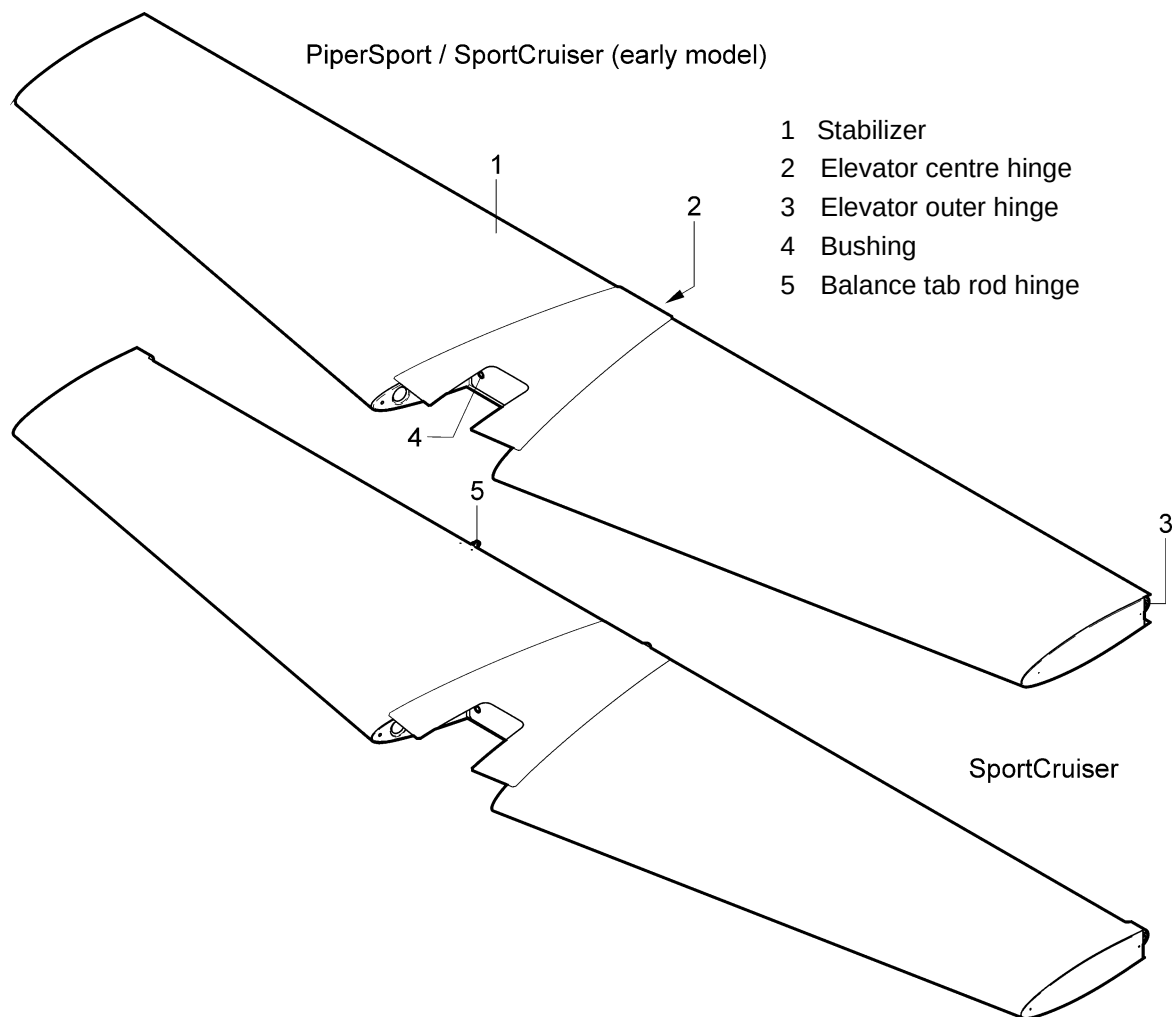
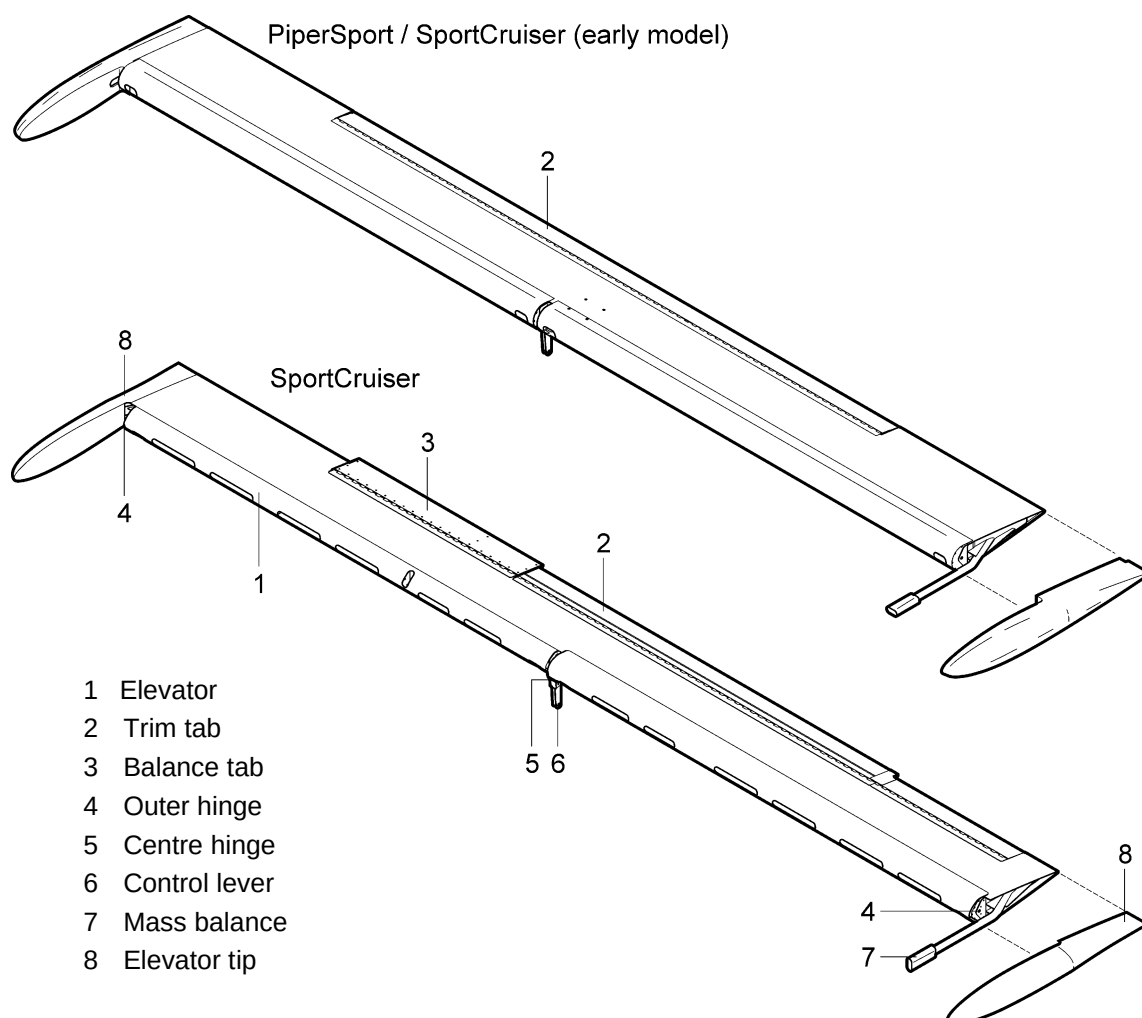
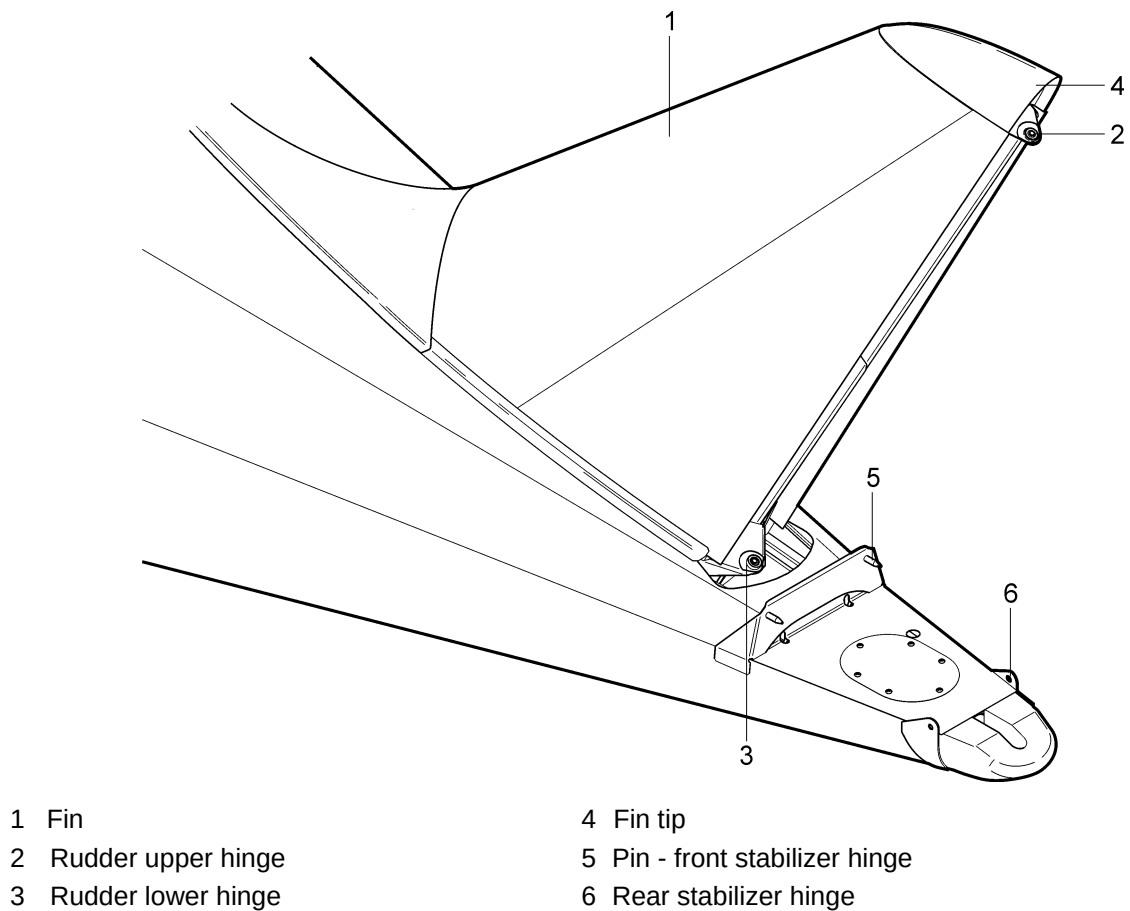

Fig. 5-1: Stabilizer
Fig. 5-2: Elevator
Fig. 5-3: Fin
Stabilizer (1, Fig. 5-1) is of the all-metal structure consisting of the two spars, ribs and aluminum skin. Individual parts are assembled by riveting. The elevator is attached to the rear spar by means of three hinges (2; 3). The horizontal stabilizer is mounted on the fuselage by means of front and rear attachments. The front attachments consist of two pins (5, Fig. 5-3), which are riveted on bulkhead No. 12 and bushings (4, Fig. 5-1) riveted on front stabilizer spar. The rear attachments consist of two hinges (6, Fig. 5-3) riveted on sides of bulkhead No. 13.
Elevator (1, Fig.5-2) is of all-metal structure and consists of aluminum skin, spar and ribs. Individual parts are assembled by riveting. Control lever (5) is riveted on middle elevator rib. Mass balances (6) are riveted at the both elevator ends and covered composite tips (7). The elevator is equipped with the trim tab (2); newer SportCruiser airplanes also have balance tab (3). Both tabs are hinged by means of the piano hinge on the rear spar close to the trailing edge of the elevator. The balance tab (3) is interconnected by means of the rod with the hinge (5, Fig. 5-1) on the stabilizer. The tabs are made of aluminum sheet.
The vertical fin (1, Fig. 5-3) is of an aluminum structure and is an integral part with the rear part of the fuselage. The fin consists of stiffeners, spar, ribs and aluminum skin. Individual parts are assembled by riveting. The fin tip (4) is made of fiberglass. On the spar are two rudder hinges, lower one (3) and upper one (2).